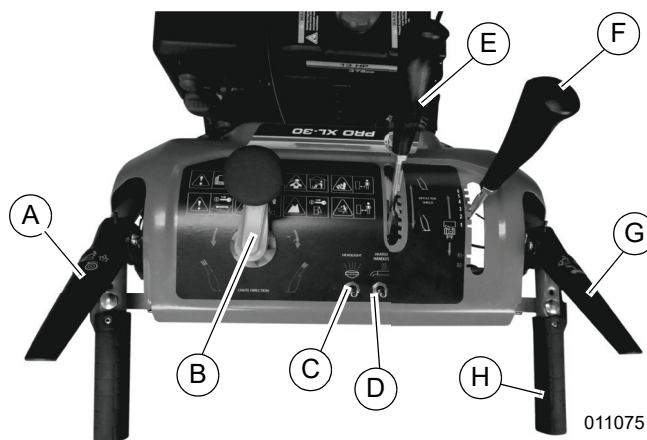

Figure 3-5. Controls
3. See Figure 3-5. Set gear selector (F) to desired gear. See Selecting Gears.
5. Push auger lever (G) down to handle (H) to start snow blower auger.
6. Gently squeeze drive control lever (A) to engage wheels.
See Figure 3-5. Gear selector allows for the selection of:
1. See Figure 3-5. Set discharge chute height control lever (E) forward to lower the discharge chute deflector to blow snow shorter distances.
1. See Figure 3-5. Set heated grips switch (D) to ON to turn on heated grips.
1. See Figure 3-5. Set LED headlight switch (C) to ON to turn LED headlight on.